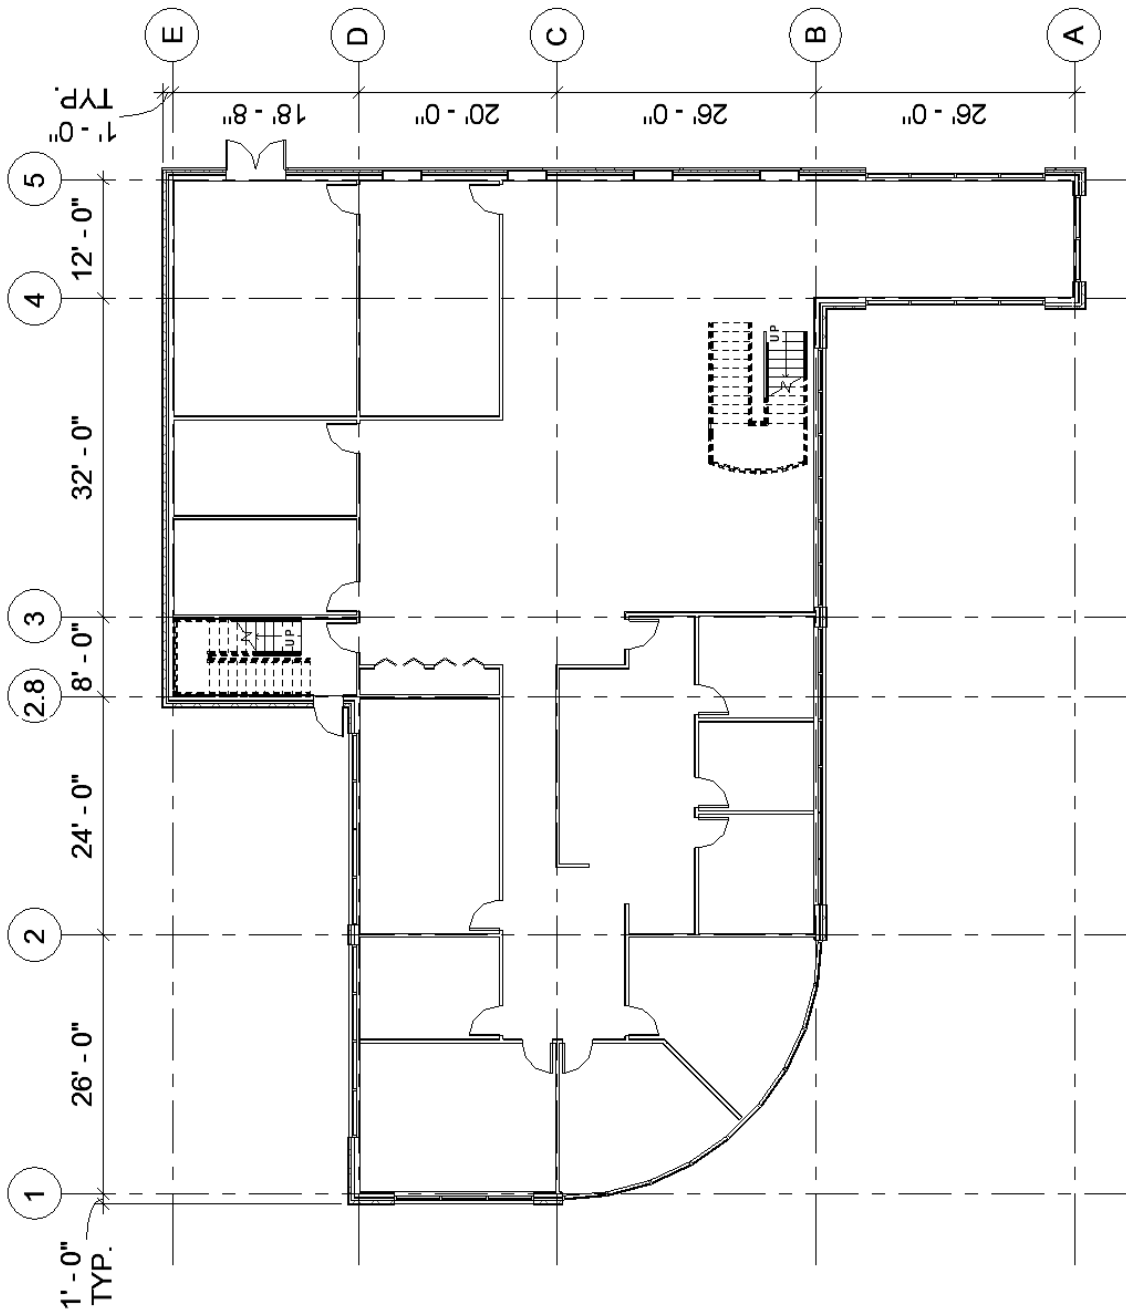

FIGURE 7-3.3
4. Layout the grid as shown in Figure 7-3.3.
- b. Use this as an opportunity to double-check the overall dimensions of your building. Many of the grids can be laid out based on the 1'-0" distance from the exterior face of the exterior wall rule we have established. Additionally, Figure 7-3.3 shows dimensions between each grid; this can be used to locate the remaining grids and verify dimensions.
***FYI:** In the image below (Figure 7-3.3), you can see two dimensions with the word “**TYP.**” below them. First off, this is an abbreviation which should only be used if it has been defined in an abbreviation list somewhere in the set of documents. This abbreviation means “TYPICAL”, and when used like this, lets the contractor know that any grid line near an exterior wall should be this same dimension (1'-0" in this case).*